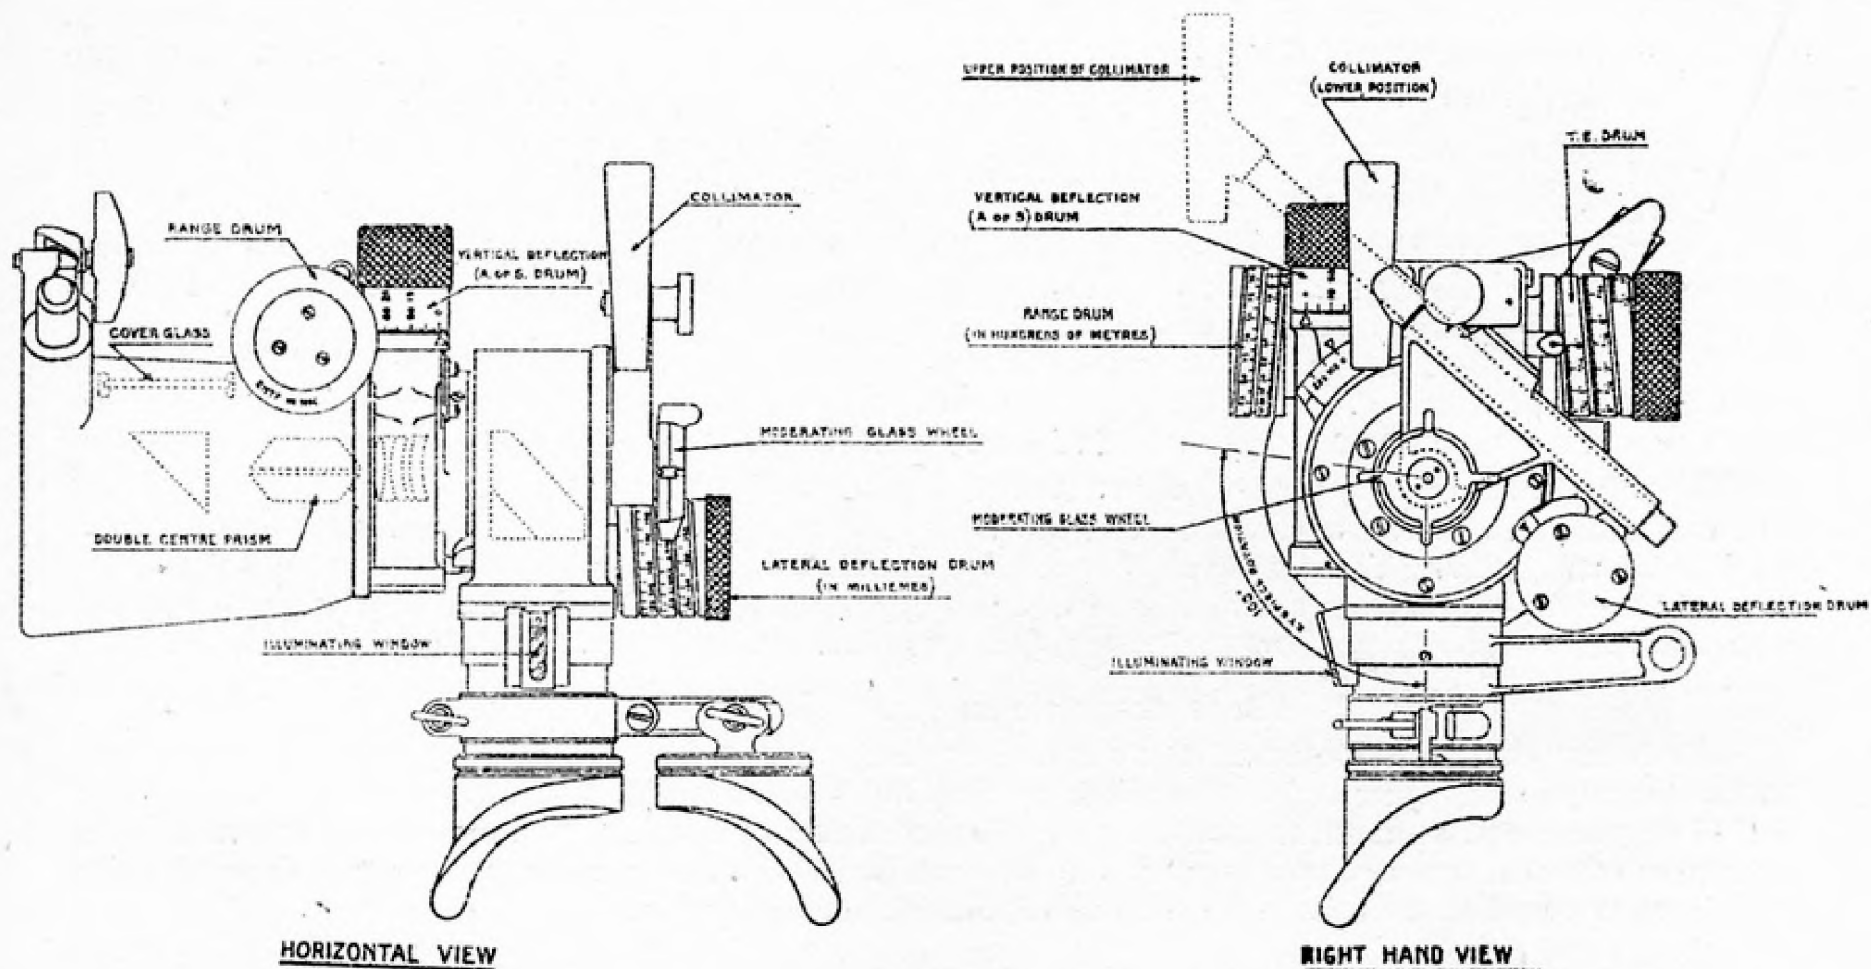

FIG. 18.—8.8 cm. (3.46 in.) MULTI-PURPOSE GUN (8.8 cm. FLAK 36). TELESCOPIC SIGHT ZF. 20E
12. Telescopic sight. (See Fig. 18)